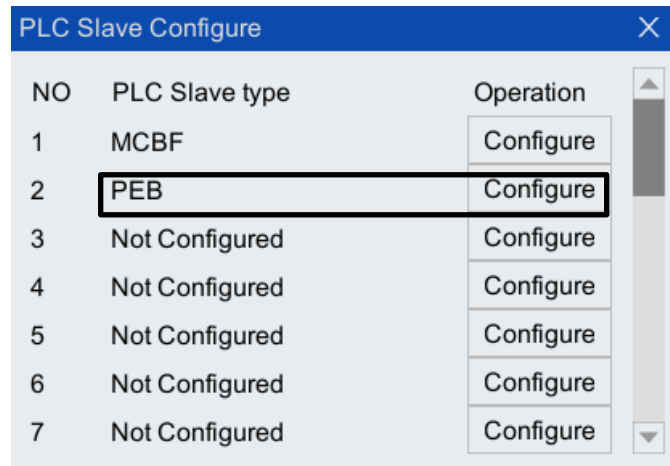

Figure 8-24 The type of PLC slave with serial number 2 is configured as "PEB"
Step3.After restarting, in the main interface of the teach pendant, click "System > System Configuration > PLC Slave Configuration" option to enter the "PLC Slave Configuration" interface shown in Figure 8-24, the serial number is The PLC slave type of 2 has been successfully configured as "PEB".